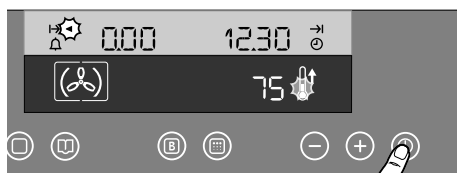

Fig. 12
2. Touch the "Time Function" control . The symbol  flashes near the "Cooking Duration" symbol . The time display shows "0.00" at the left hand and the current time of day at the right hand (Fig. 12).